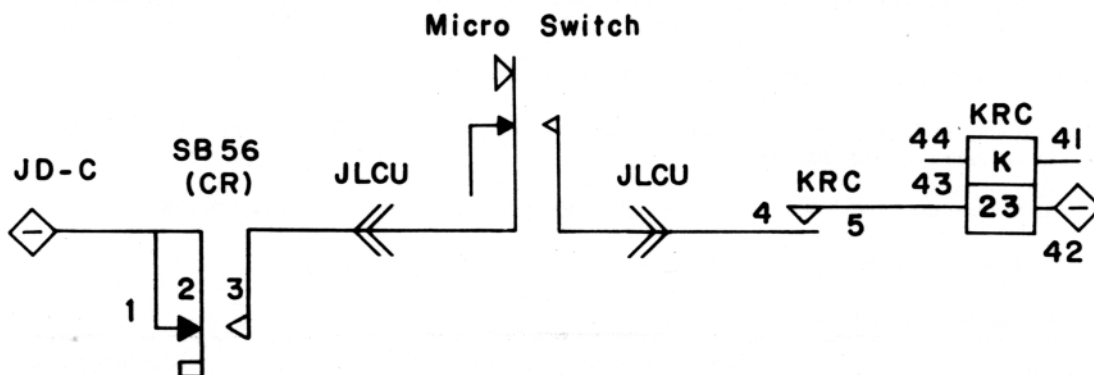

Figure 1.
2. When operated, the low ribbon supply micro switch is designed to blow down the KRC relay upon reading a carriage return code. This is accomplished as follows: With standing negative potential on the number 2 strap of SB-56 (CR) and upon reading a carriage return code to operate SB-56, a circuit is established through the micro switch to the blow down coil of KRC. (See Figure 1.)